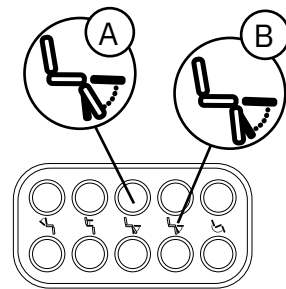

Figure 5.26. Buttons for adjusting leg supports.
Buttons above and below the symbol for adjusting the length of leg supports (A) and above and below the symbol for adjusting the length and angle of leg supports (B), see Figure 5.26.